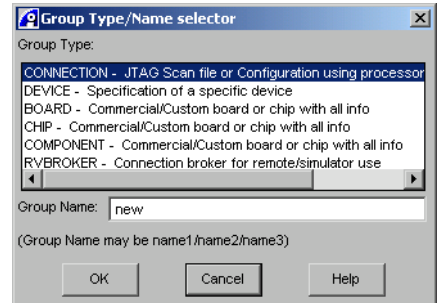

Figure 5-12 Specifying a new CONNECTION group
3. Select **Make New Group...** from the context menu, to display the Group Type/Name selector dialog box, shown in Figure 5-12 on page 5-33.